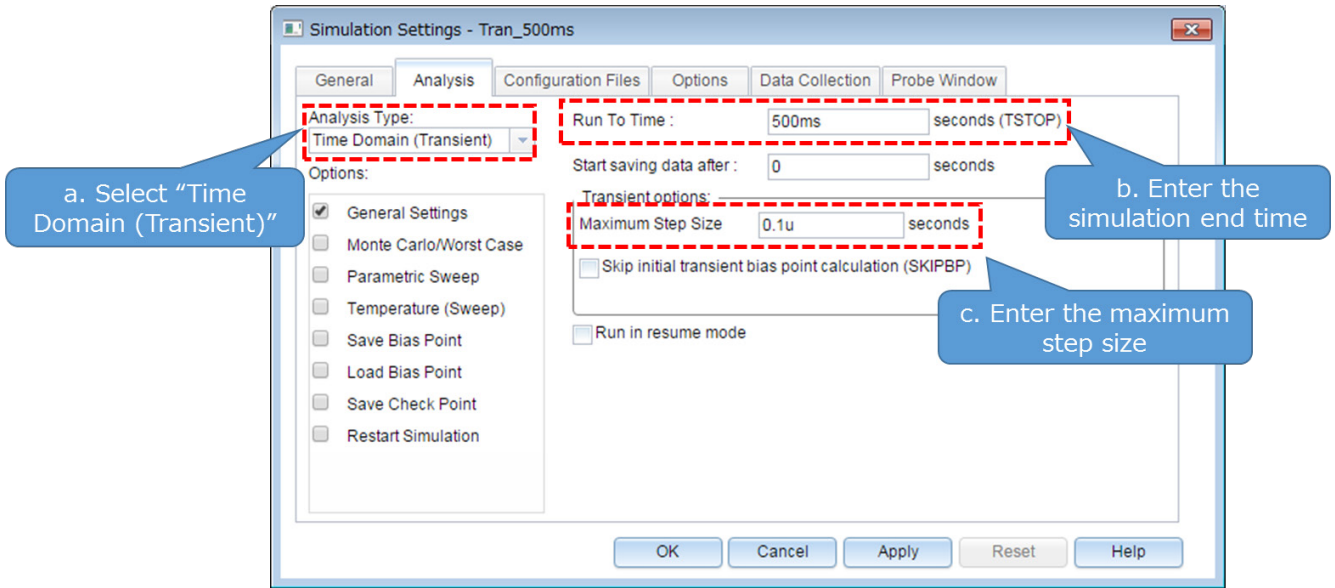

Figure 5.3 Simulation Settings - Analysis dialog box
2. Then, the Simulation Settings dialog box shown in Figure 5.3 appears. In this dialog box, you can set parameters for various types of analysis. First, click the **Analysis** tab. Select **Time Domain (Transient)** from the **Analysis Type** drop-down list. Enter the simulation end time in the **Run To Time** field and the maximum step size in the **Maximum Step Size** field.